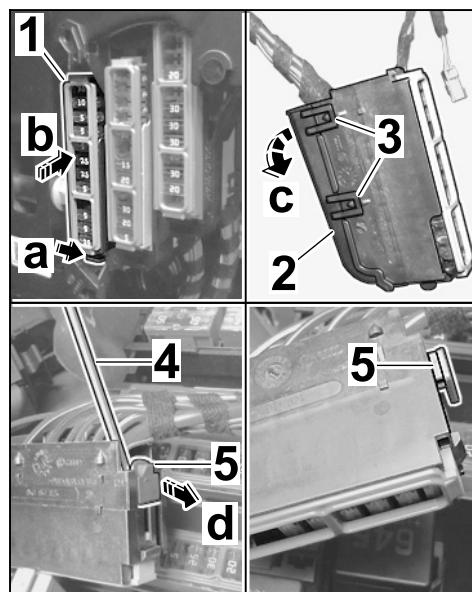

Figure 35
- 4.11.1 Release fuse strip A (black) ⇒ *Figure 35-1-* using a screwdriver ⇒ *Figure 35-a-* and remove it by pulling it to the rear ⇒ *Figure 35-b-* and out of the fuse box.
Release the cover cap of fuse strip A (black) ⇒ *Figure 35-2-* on both sides ⇒ *Figure 35-3-* and remove it ⇒ *Figure 35-c-*.
Use a screwdriver ⇒ *Figure 35-4-* to open the secondary lock ⇒ *Figure 35-5-* of fuse strip A (black) ⇒ *Figure 35-d-*.